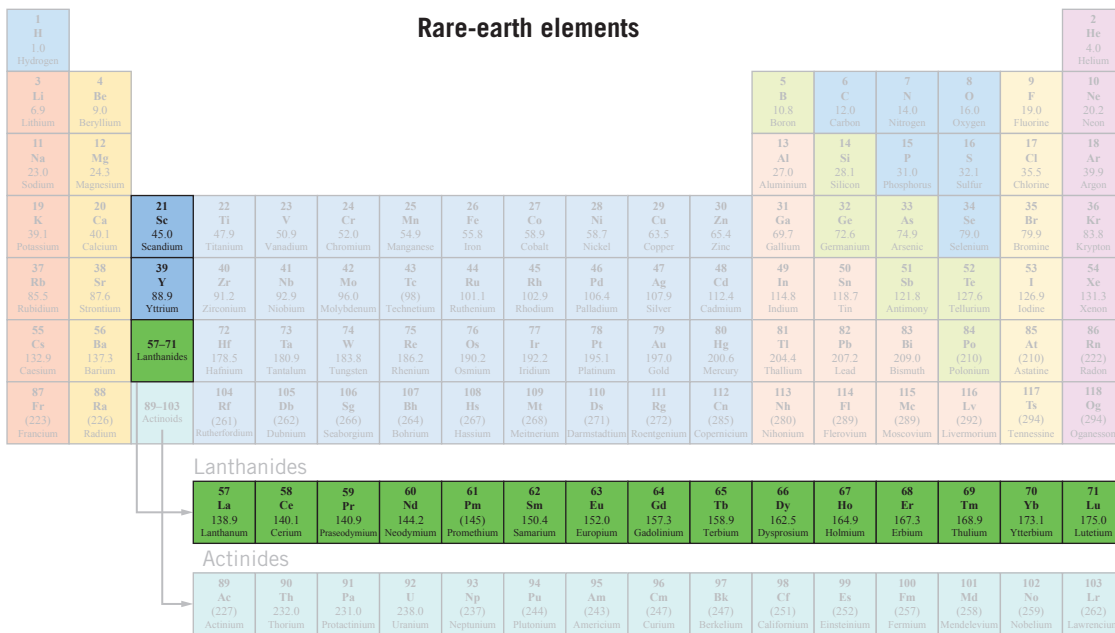

Figure 1D–5 A periodic table highlighting the location of the rare-earth elements – the lanthanides – plus scandium and yttrium
Rare-earth elements are the group of 17 elements in the periodic table referred to as the lanthanides, as well as yttrium (Y) and scandium (Sc). Scandium and yttrium are included as rare-earth elements because they are often found in mineral deposits with the lanthanides and have similar chemical properties. Figure 1D–5 highlights these elements.
Rare-earth elements are not found in high concentrations in Earth's crust, which is why they were initially given the name 'rare-earth metals' (Figure 1D–6). These elements can further be classified into light elements (La to Sm in the lanthanides period) and heavy elements (Eu to Lu in the same period). The heavy elements are much less common and as a result are more expensive.